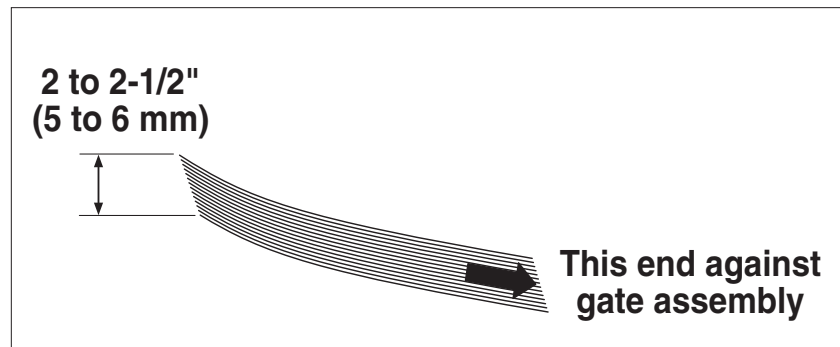

Figure 2-9. Preshingling a Small Stack of Material By Hand
1. Grasp a handful of product, approximately 2 to 2-1/2 in. (5 to 6 cm) thick and preshingle the edges with your thumb (Figure 2-9).